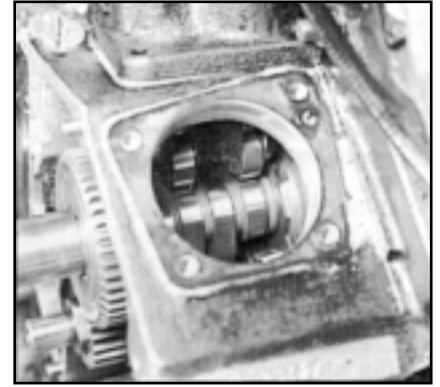

Fig. 15
3. Camshaft end play must be checked at this point. With camshaft and original thrust washers installed in the crankcase, install the gear case cover with a gasket and tighten down the screws. Reach through the tappet guide hole (Fig. 15) and slide the camshaft back and forth. There should be a "slight drag" indicating proper fit of the nose of the cam and the bushing in the gear case cover. Try to rotate the camshaft to see if there is too much lash in the cam and pinion gears. (See "setting gear lash" section.) If you have a dial indicator available, measure the amount of movement (end play) at the nose of the camshaft as you slide it back and forth in the case. If no indicator is available, insert a feeler gauge between the hardened thrust washer and the thrust face of the camshaft. (Do NOT measure between the case itself and the thrust washer.) Depending on the year of the engine, the end play can be between .001" to .016", with an ideal situation of .003" to .005". If using a point-type ignition system, you must maintain the cam end play between .003 to .008". To arrive at the proper end play, different thickness spacing washers are available from a Harley-Davidson® dealer. Also, be sure the thrust washer is installed properly with the "ears" facing down and the cutoff portion of the washer towards the rear cylinder.